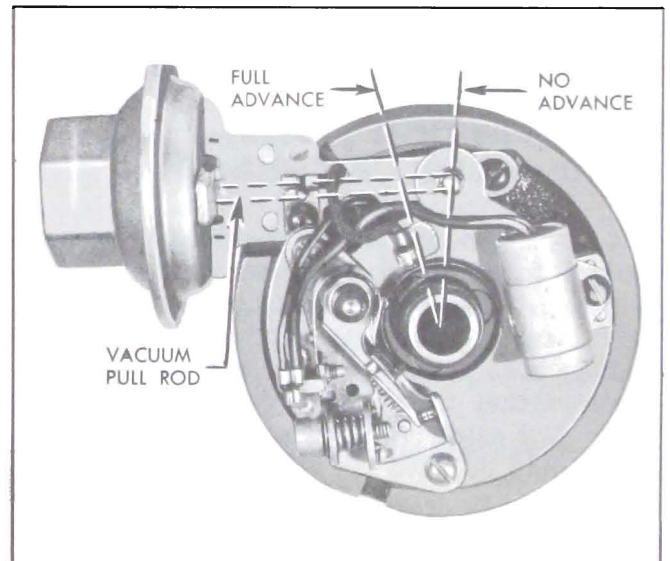

Figure 10-34—Vacuum Advance Mechanism
3. Vacuum Advance is governed by manifold vacuum. The contact point set is mounted on a breaker plate which is located below the centrifugal advance mechanism and uses the outer diameter of the upper shaft bushing for its bearing surface. The movable breaker plate is held in position on the upper shaft bushing by a retainer. The vacuum unit is mounted on the distributor base and under the movable breaker plate so that the breaker plate can be rotated around the distributor cam by a link from the vacuum unit. See Figure 10-34.